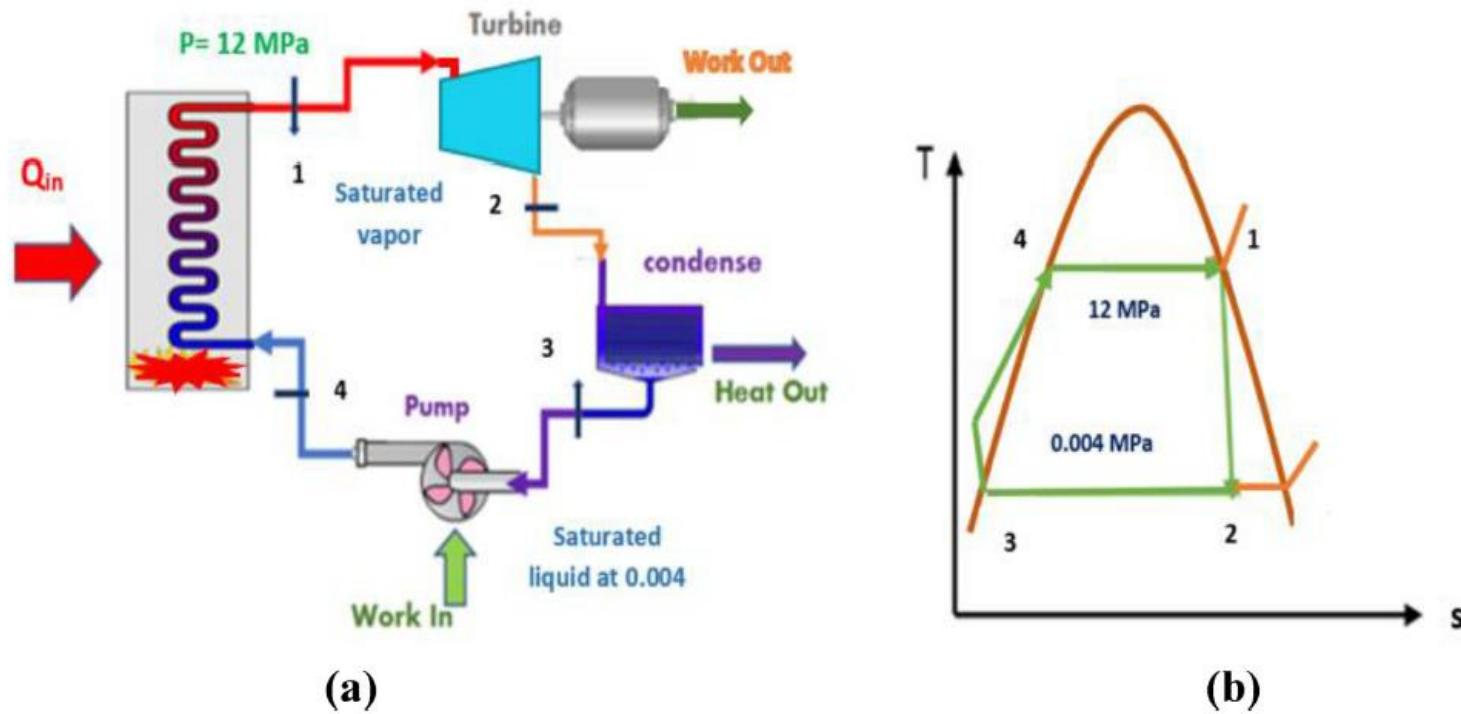

Figure 4.17. (a) Schematic representation of steam cycle. (b)  $T$ - $s$  diagram.
**EXAMPLE 11** Biomass is burnt to generate water steam in an electric power plant. Assume the system runs at an ideal Rankine cycle as shown in figure 4.17. The inlet turbine condition is 12 MPa and the saturated vapor mass flow rate is  $120 \text{ kg s}^{-1}$ . The condenser operates at 4.0 kPa. Determine: